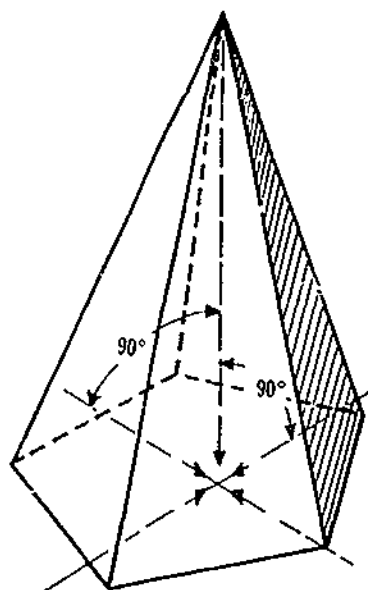

Figure 5-9. Pyramid
**Pyramid** — a geometric solid with triangular sides meeting at a common point called the *apex* (Figure 5-9).